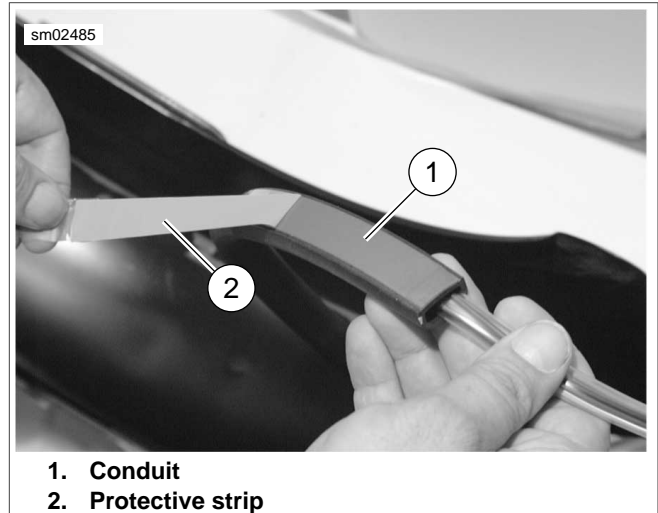

Figure 2-107. Removing Protective Strip from Conduit
4. Remove protective strip covering adhesive on conduit (see Figure 2-107.) and lightly position the conduit in place.